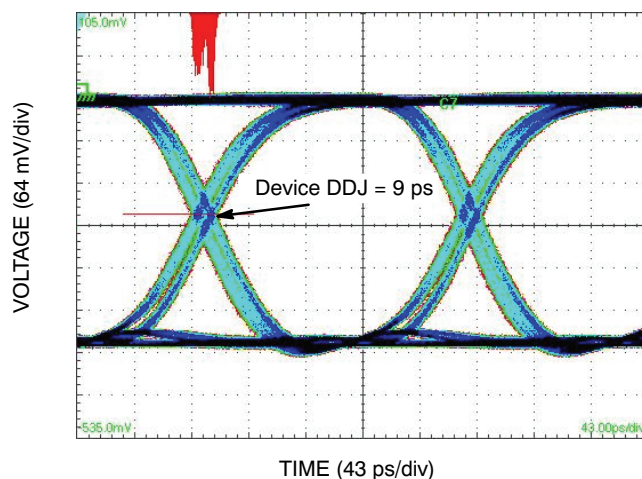

Figure 11. Typical Output Waveform at 5 Gb/s with PRBS $2^{23}-1$ ($V_{INPP} = 400$ mV; Input Signal DDJ = 13 ps)
10. $V_{INPP}(MAX)$ cannot exceed $V_{CC} - V_{EE}$. Input voltage swing is a single-ended measurement operating in differential mode. See Figure 11.